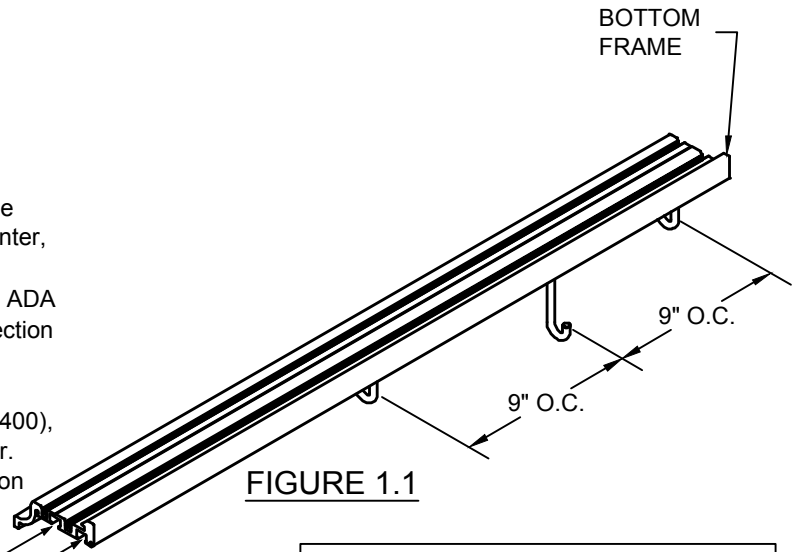

FIGURE 1.1
- 1.1) Slide J-Bolt Anchors into the nut slots on one Bottom Frame. Locate so they are 9" on center, staggered. (See Figure 1.1)